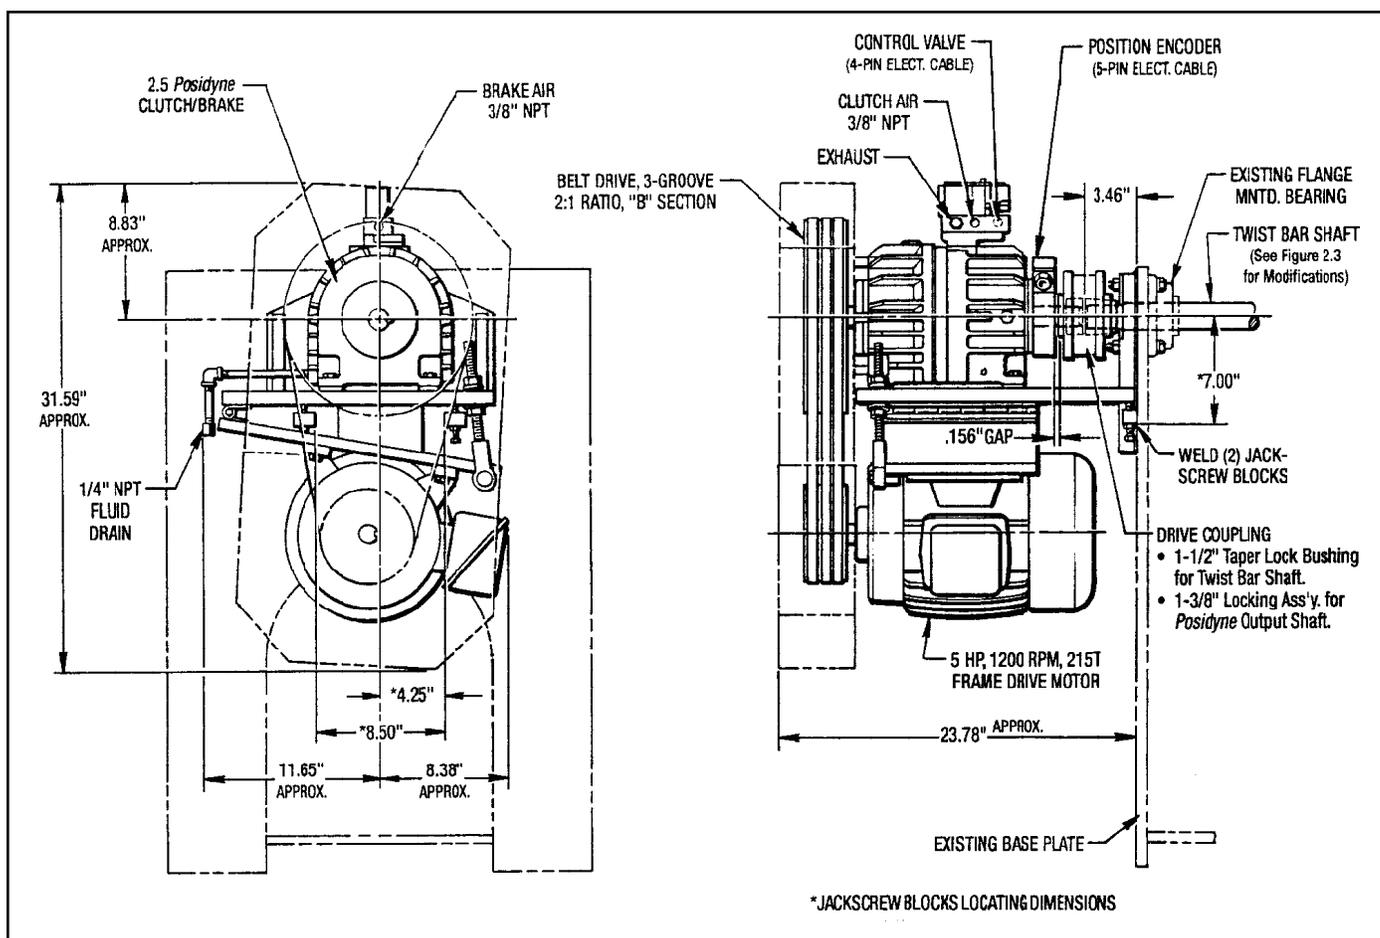

Figure 2.1 - Drive Base Installation (Air Actuated)
(See *Figure 2.1* for Air Actuated Drive)
7. Included in the Drive Package are (2) Blocks and Jackscrews which are used for alignment purposes. Weld these (2) Jackscrew Blocks to the existing End Base Plate under the Drive Base. (See Figure 2.1 for location.)